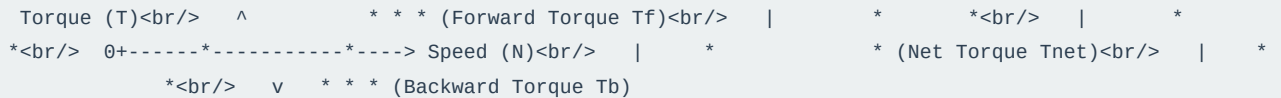

Figure 5.5: Resolved Torque Components in Double Revolving Field Theory
2. **Resultant Torque:** The net torque is the difference between the forward and backward components ($T_{net} = T_f - T_b$), as illustrated in Figure 5.5.